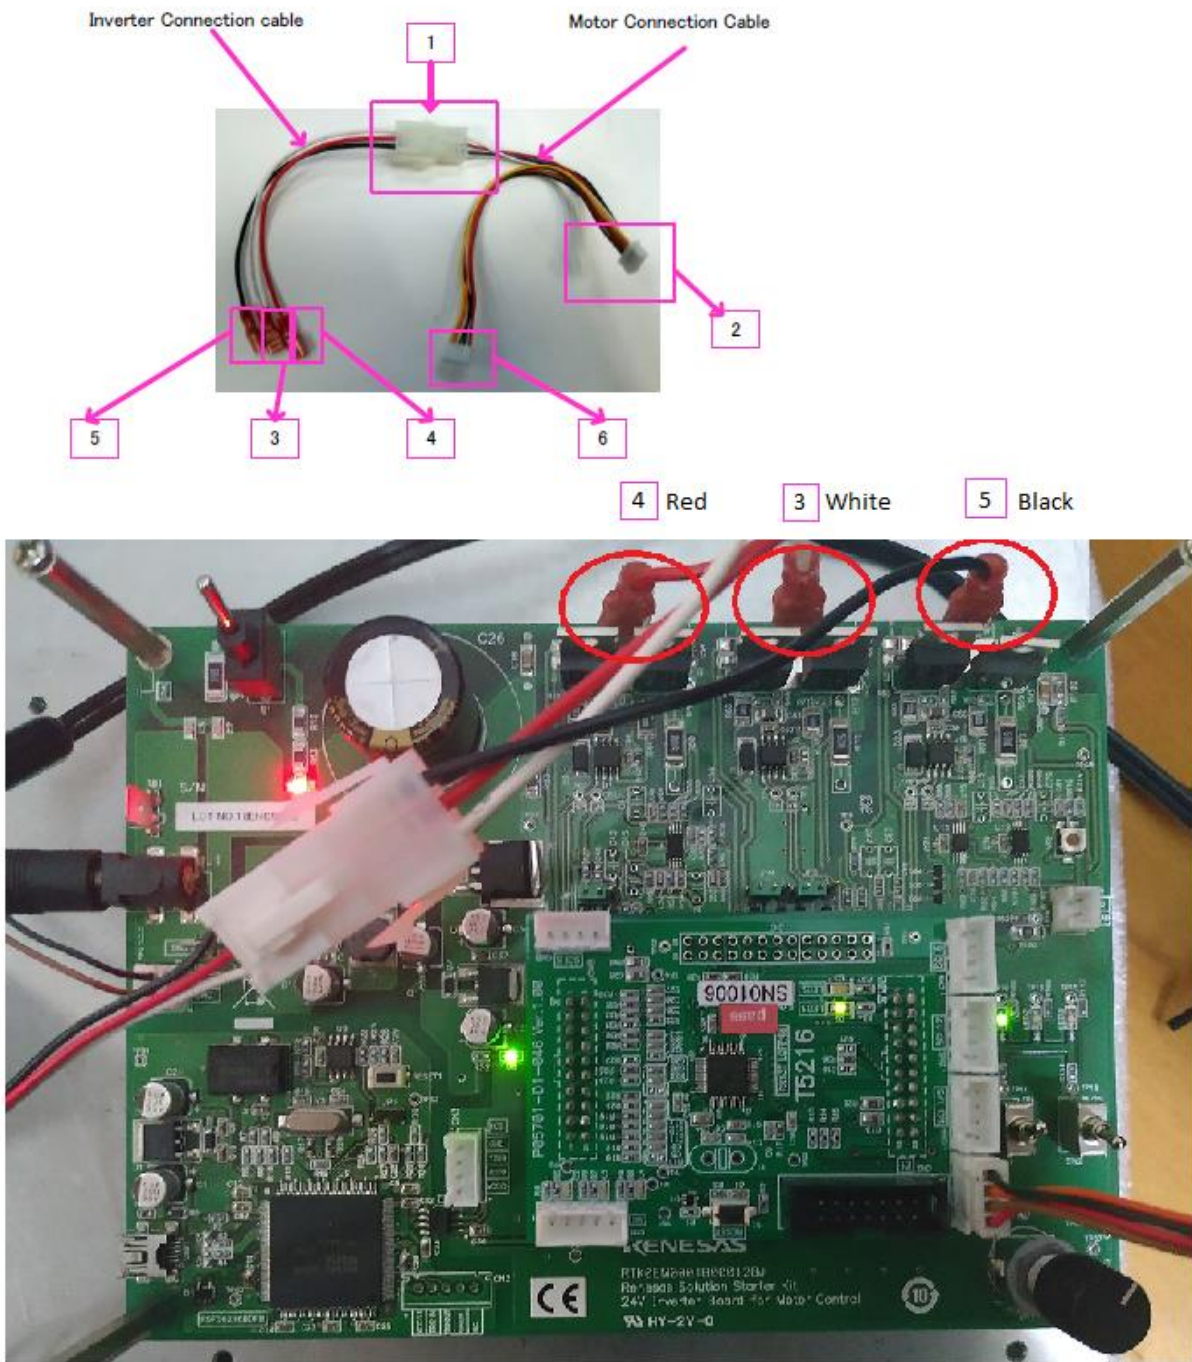

Figure 6 Motor Connection to 24V inverter board
- Figure 6 shows the BLDC motor connection to 24V inverter board